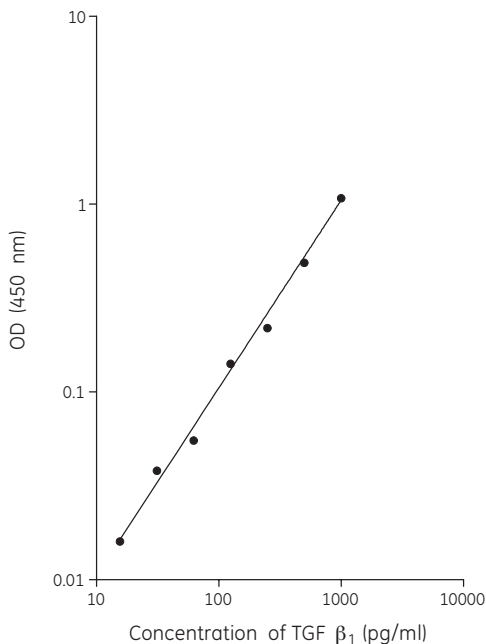

Figure 4. Typical TGFβ₁ standard curve
2. Calculate the mean optical density (OD) for each sample and standard.
5. A typical standard curve is illustrated in figure 4.